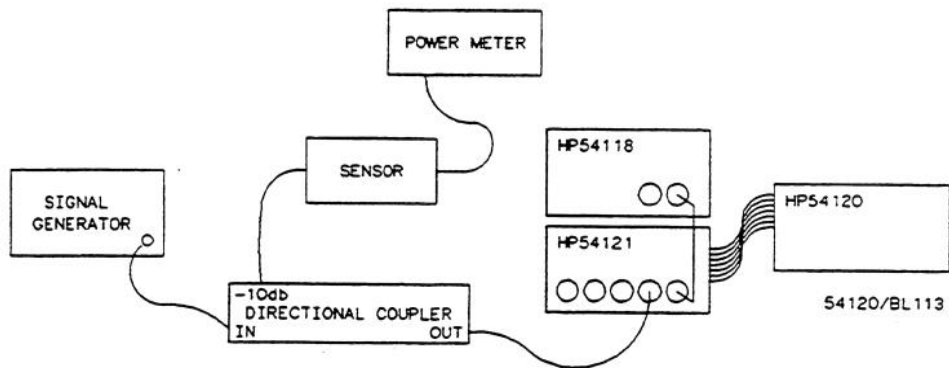

Figure 4-1. Initial Equipment Setup
2. Connect equipment as shown in figure 4-1. When testing 500 MHz, the directional coupler connects directly to HP 54121A through an APC 3.5 (m-m) adapter.